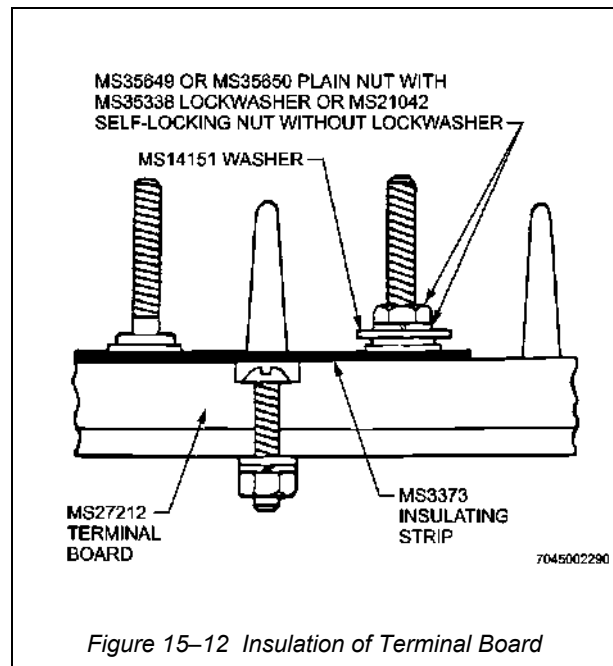

Figure 15-12 Insulation of Terminal Board
47. Place an insulating strip over each mounting screw, long enough so it will go over the two adjacent terminal studs. If there is no terminal mounted to the stud the insulating strip should be secured to the board under a nut and washers as shown in Figure 15-12. The MS14151 washer is not required if a busbar is installed on the terminal stud.
48. When a MS25226 busbar is to be attached to a MS25123 terminal board, mount the busbar directly on top of the nut that holds the terminal stud in place. When MS25226 busbar is to be attached to a MS27212 terminal board, mount the busbar directly on the base of the moulded-in stud, and above the insulating strip (MS3373) if used. (See Figure 15-12 and Section 2, Chapter 4, Figure 4-18).